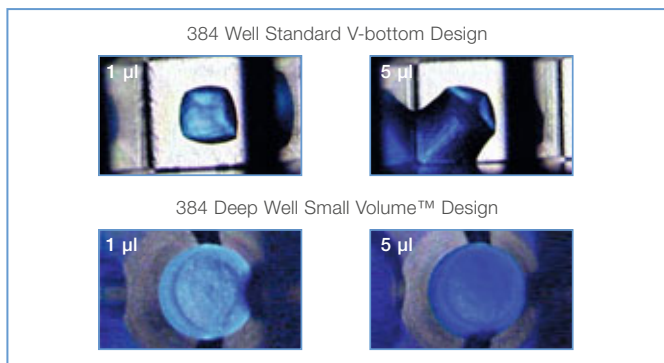

Figure 2: Location of liquid at the bottom of different microplate wells
- ☞ Focused liquid samples (Fig. 2)
The focused aggregation of even small sample volumes in the well centres (Fig. 2) allows the transfer of small amounts of highly concentrated compound solutions with pin tools or capillary-based liquid handling systems. Direct compound transfer of 50 nl from storage to assay plate is possible and pre-dilution of concentrated compounds becomes redundant.